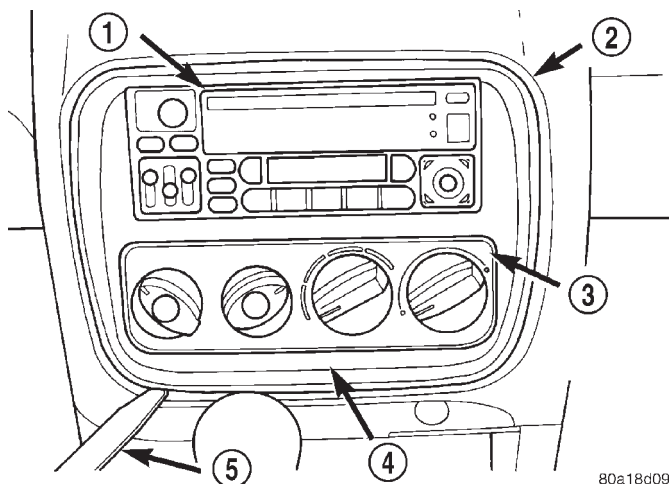

Fig. 7 Center Bezel
NOTE: When removing the center bezel, only use a soft tool such as a trim stick (Fig. 7) to pry the center bezel from the dash panel. Use of a hard tool will damage dash panel.
(5) Remove center bezel surrounding radio and climate control panel from top cover of dash panel (Fig. 7).